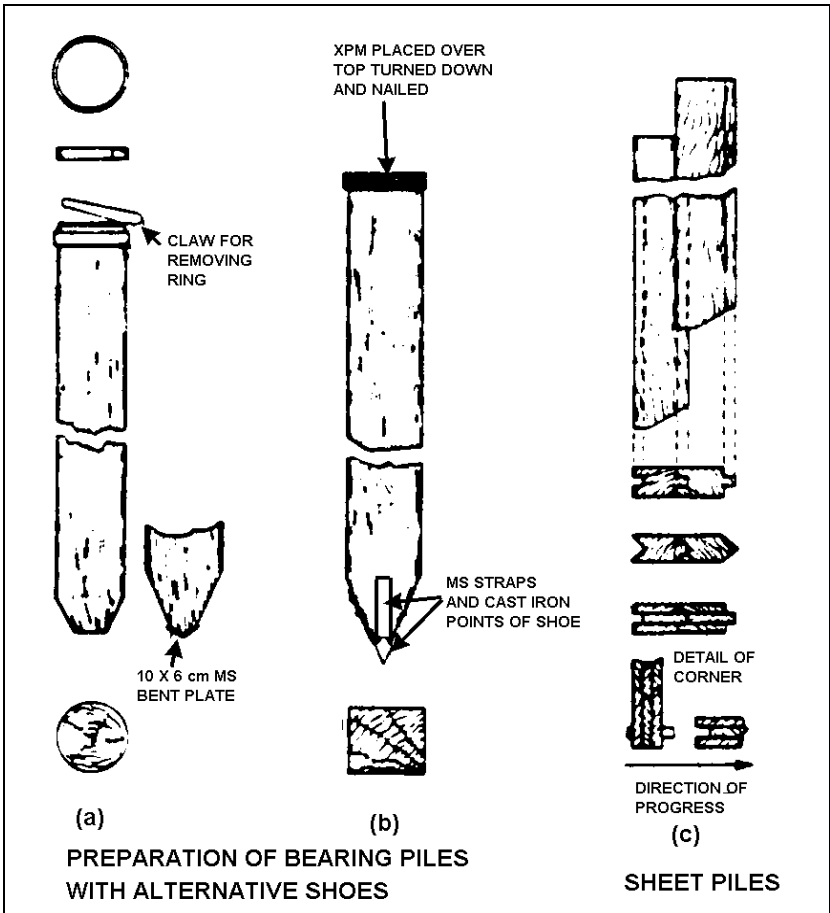

Fig 14-3-1 Typical Timber Piles
7. The foot is usually cut off square and the edges chamfered (Fig 14-3-1(a)) which is adequate for ordinary soils. If hard driving is envisaged, the foot of the pile is pointed and shod with a steel shoe (Fig 14-3-1(b)). The shoe must be put on perfectly symmetrically, otherwise the pile cannot be driven straight. Piles can, if necessary, be driven in two or more lengths. The first length is driven nearly full length; the head is then cut off truly square, and the second length is butt-joined to it, the joint being made with fishplates of steel or timber, bolted or spiked to the piles. Timber fishplates shall be long enough to permit the leading end to be chamfered for easy driving.
8. **Preparing Sheet Piling.** The heads of sheet piles, both steel and timber, are normally protected from damage by a steel helmet for the particular type of pile or by a hardwood dolly. The feet of timber sheet piles are usually cut off at an angle so that driving tends to hold a pile firmly against its neighbour (Fig 14-3-1(c)).
13. Sheet piles may be either steel or interlocking types (Fig 14-3-6), or of timber as shown in Fig 14-3-1. Steel sheet piles are included in engineer stores, while timber sheet piles are made up for the particular job